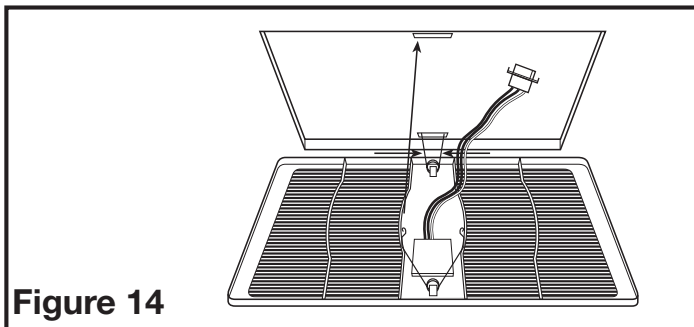

Figure 14
- 5b. **MOTION SENSING MODELS:** Install the grill by squeezing the spring furthest from the motion sensor together and installing it up into the slot furthest from the wire compartment on the fan's housing. Attach the 3 pin quick connect from the motion sensor on the grill to the harness installed in *Step 2a*. This cord will only fit one way into the receptacle. Install the other spring in place and push the grill up into position (**Figure 14**).